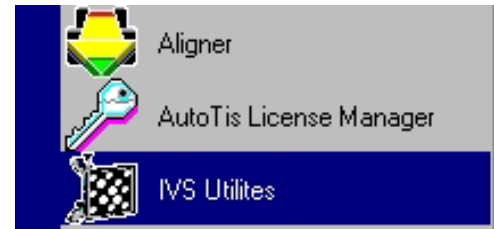

Figure 3-104
3. Enter the IVS Utilities by clicking on <START> <IVS UTILITIES>. (Figure 3-104)